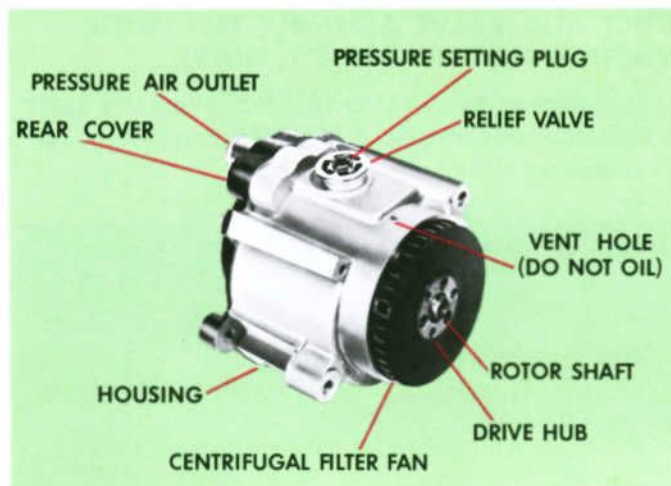

FIGURE 60. AIR SUPPLY PUMP (THERMACTOR SHOWN)
Even though the air supply pump must be replaced as a unit if any malfunction is found during the air pump test procedure, some external parts may be replaced as a periodic maintenance item or as needed. The parts that are servicable are the centrifugal filter fan, air pump relief valve, and relief valve pressure-setting plug. (See Figure 60.)
- Insert the plug in the relief valve hole and push the plug in until it snaps into place. (Refer to Figure 60.)